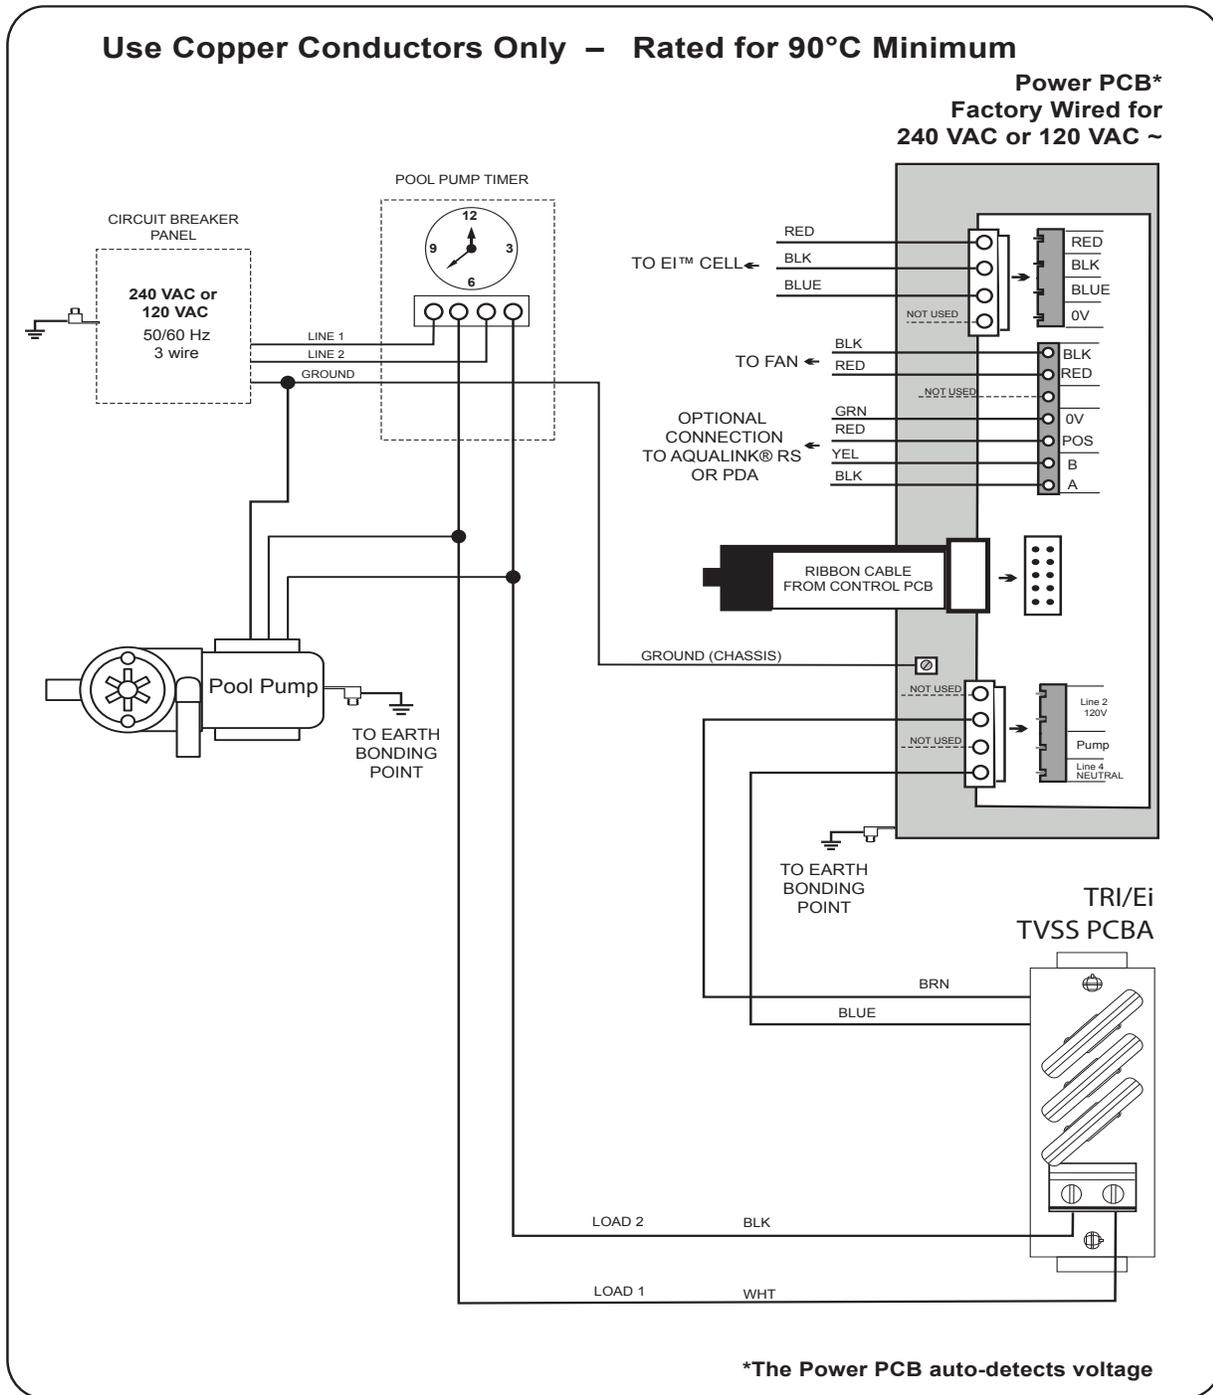

Figure 12. 240 VAC or 120 VAC Wiring Diagram
8. Connect the Output Cable wires to the Power PCB (see Figure 12).
1. Wire power pack to pool pump power source using 3.3 mm² (12 AWG) insulated wire and conduit. The power pack should be connected to the pump motor switch or automatic timer (pool pump timer) as shown in Figure 12.